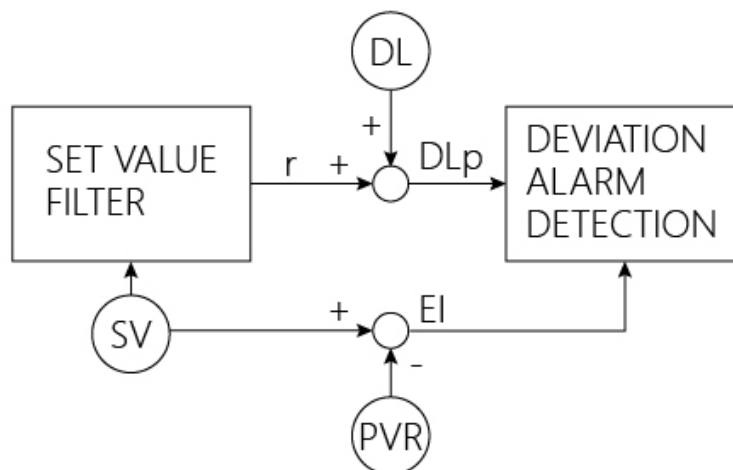

Figure 3.9 Diagram of deviation alarm
In order to avoid deviation alarm caused by mutation of set value, the value r got by filtering the set value is used as compensation coefficient of deviation alarm set value (DL). Deviation set value compensated (DLp) is deviation alarm set value DL adding compensation coefficient r , shown as Figure 3.9.